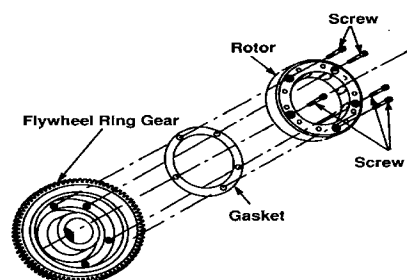

Figure 7-15. Flywheel Exploded View
5. Separate alternator permanent magnet rotor from flywheel housing by removing five Allen screws and gasket, Fig. 7-15.